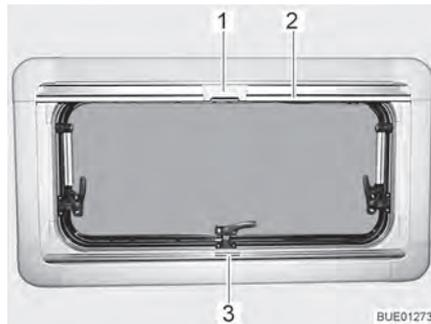
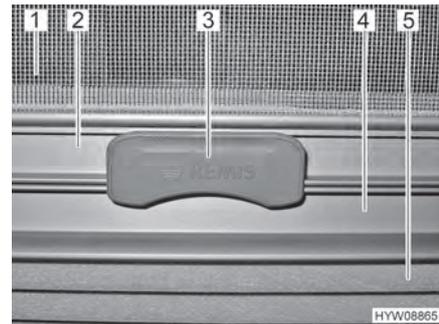

Fig. 44 Hinged window
Fig. 45 Catch
The Roman shade (Fig. 45,5) is located in the lower blind box.
- Seize the Roman shade by the centre of the holding bar (Fig. 44,3 and Fig. 45,4), pull it from the bottom to the top and release it at the desired height. The Roman shade will stay at this height.
**Insect screen** The insect screen (Fig. 45,1) is located in the upper blind box.
- Pull the insect screen down by the holding bar (Fig. 44,2 and Fig. 45,2), until it touches the holding bar of the Roman shade (Fig. 45,4).
- Clip the catch (Fig. 44,1 and Fig. 45,3) on the insect screen into the holding bar of the Roman shade. When the catch is locked, the Roman shade and the insect screen can be adjusted together.
- Push the catch (Fig. 45,3) on the insect screen upward.
- Move the insect screen back slowly on the holding bar (Fig. 44,2).